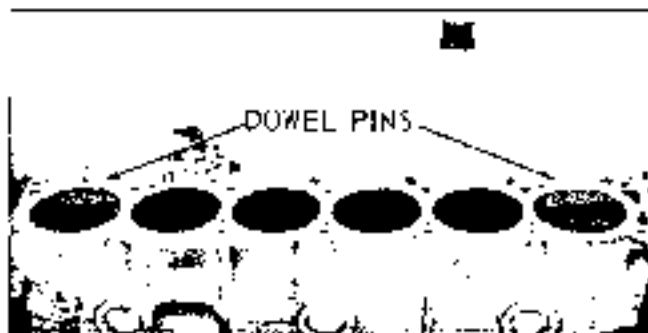

Fig. 6-26 Cylinder Head Locating Dowel Pins
1. After applying sealer, place a new cylinder head gasket in position over dowel pins in cylinder block (Fig. 6-26).